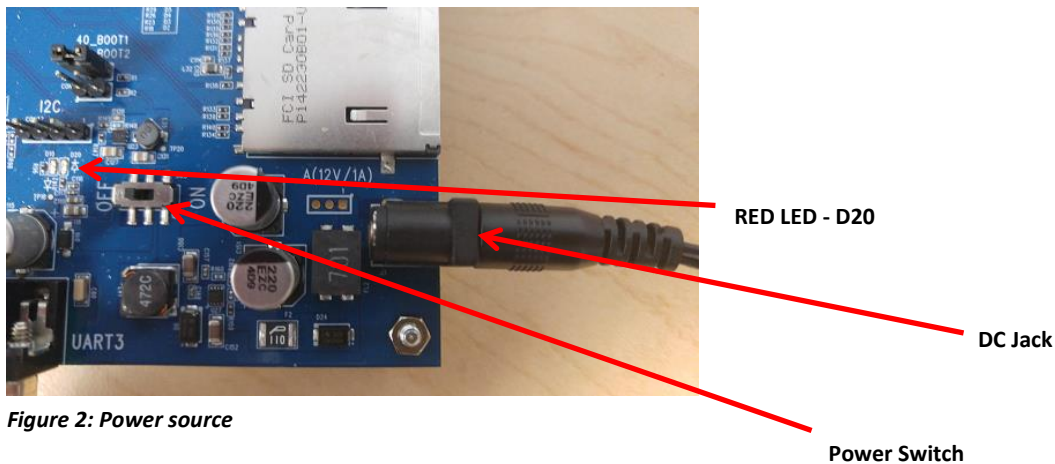

Figure 2: Power source
You can power the BB40NBT from mains power using the 12v power pack provided. Figure 2 shows the DC jack and the power switch. Ensure the power switch is set to Off.
- Connect the power supply to the wall outlet and put the barrel into the DC jack connector on the BB40NBT breakout board as shown in Figure 2.
2. Slide the power switch (shown in Figure 2) to On to power WB50NBT. The Red LED D20 on the BB40NBT board lights up.